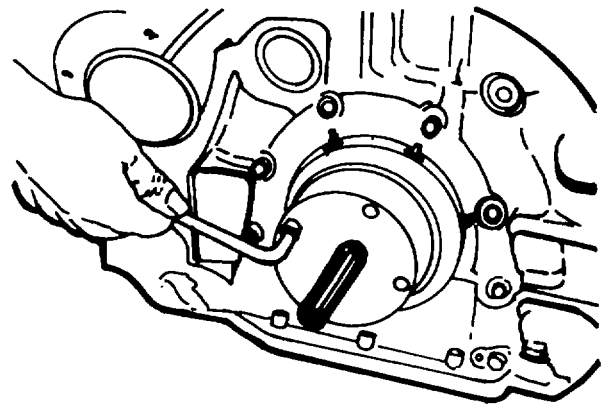

Figure 5-52. Positioning Radial Seal
4. Place seal in position with lip facing inwards and press in with device No. 003-2499 (figure 5-52).